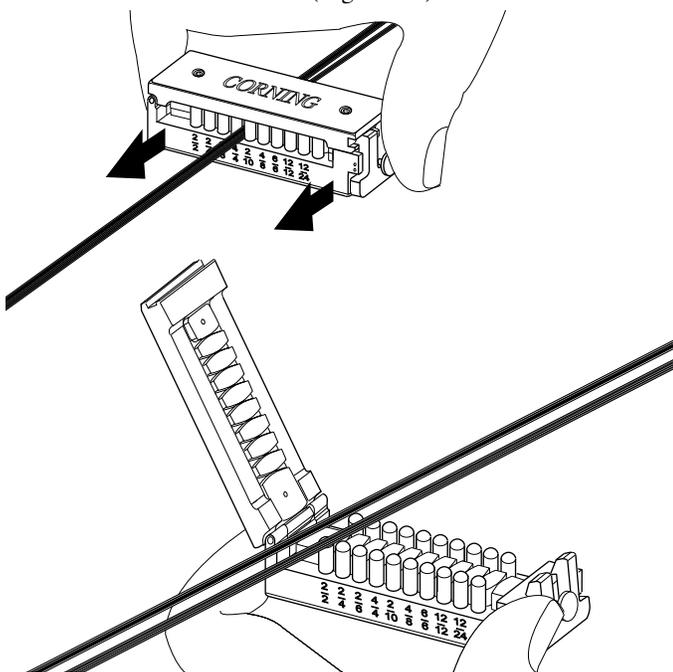

Figure 32
7.4 If appropriate for your installation, divide the 12-fiber ribbon(s) using the RST-000 tool and the instructions in Section 6 of SRP-004-098 (Figure 32).